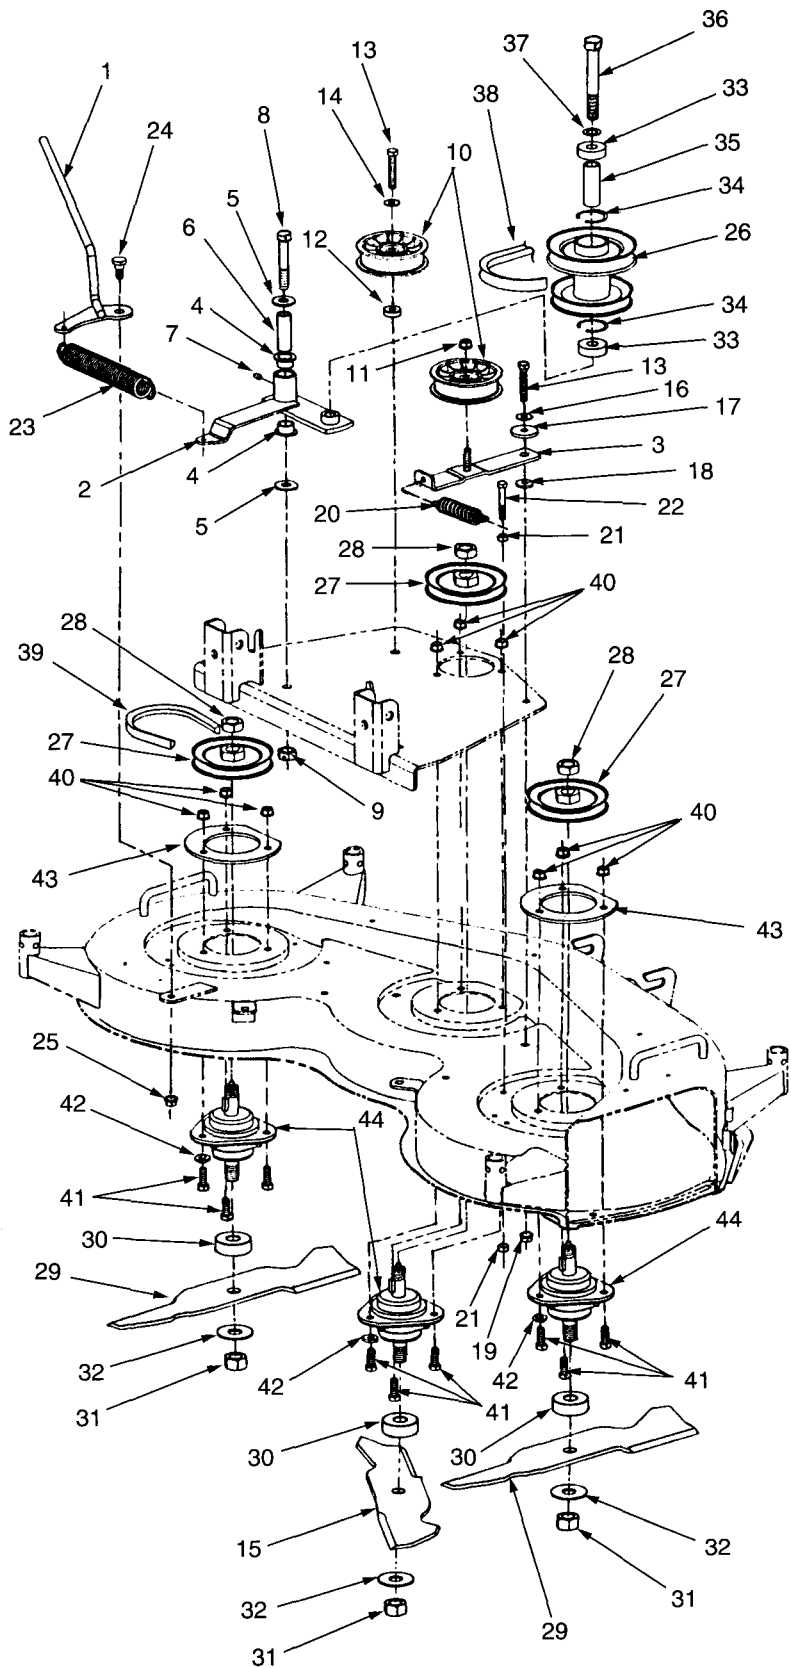

Figure 5-52. Deck Drive Components (Model 190 - 300 Mower Deck).
Use care when handling the mower blades (15 and 29, Fig. 5-52). Sharp edges of the blades could cause cuts to the skin.
When the hex nut (31, Fig. 5-52) is removed, the spindle shaft, with V-pulley (27), is free to fall from the spindle assembly (44) when the deck is tipped or inverted to remove the blades. Use care to prevent these parts from falling, which could cause damage or injury.
To prevent the spindle shaft from turning when removing the hex nut (31, Fig. 5-52) and/or hex jam nut (28), use a 1-1/4 inch wrench to hold the hex shaped hub of the V-pulley (27).
18. Remove the center cutting blade (15, Fig. 5-52) and spacer (30) from the spindle assembly (44) by removing the hex nut (31) and flat washer (32).
If the woodruff key is removed from the spindle shaft when removing the V-pulley (27, Fig. 5-52), the shaft will be free to fall from the spindle housing and may cause damage or injury.
19. Remove the hex jam nut (28, Fig. 5-52) from the center spindle assembly (44) and pull the V-pulley (27) from the spindle shaft and woodruff key.
20. Remove the center spindle assembly (44, Fig. 5-52) from the mounting plate (2, Fig. 5-51) and deck housing (1) by removing the hex flanged lock nuts (40, Fig. 5-52), hex cap screws (41), and flat washers (42).
22. Carefully remove the outer cutting blades (29, Fig. 5-52) and spacers (30) by removing the hex nuts (31) and flat washers (32).
23. Remove the hex jam nuts (28, Fig. 5-52) from the outer spindle assemblies (44) and pull the V-pulleys (27) from the spindle shafts and keys.
24. Remove the outer spindle assemblies (44) and spindle mounting plates (43) from the deck housing by removing the hex flanged lock nuts (40, Fig. 5-52), hex cap screws (41), and flat washers (42).
25. If necessary, note the hole location and remove the hex cap screw (22, Fig. 5-52) and upper hex nut (21) from the deck housing by removing the lower hex nut (21).
Disassembly, inspection, and reassembly of the spindle assemblies (44, Fig. 5-52) are covered in paragraph 5-37.
1. Remove the flat idler pulley (10, Fig. 5-52) from the idler arm (3) by removing the hex flanged lock nut (11).
2. Remove the double pulley (26, Fig. 5-52) assembly from the pulley pivot arm (2) by removing the hex cap screw (36) and flat washer (37).
3. Disassemble the double pulley (26) assembly as follows:
- a. Slide the ball bearing (33) from each end of the pulley hub and remove the pulley spacer (35).
- b. Remove the internal snap rings (34) from inside the pulley hub.
4. Disassemble the double pulley pivot arm (2) assembly as follows:
- a. Slide the idler brkt. spacer (6) from the hub of the pivot arm.
- b. If necessary, press the flange bearings (4) from each end of the pivot arm hub. Discard and replace the bearings if removed.
- c. Remove the lube fitting (7), only if necessary, by pulling from the pivot arm hub. The lube fitting must be replaced if removed.
- a. After first marking the location of the hex jam nuts (43) on the threads of the lift rod (6), remove the hex nylon top lock nuts (46) to separate the lift rod from the front lift bracket (7).
- b. Remove the shoulder bolts (44) and hex flanged lock nuts (45) from the front lift bracket.
- c. Remove the hex jam nuts (43) from the front lift rod (6).
7. Inspect the shoulder spacer (17, Fig. 5-52) and idler arm (3) for wear to mating surfaces.
- a. Screw the hex jam nuts (43) onto the front lift rod (6) to the positions marked when disassembling.
- b. Install the shoulder bolts (44) in the front lift bracket (7) with the hex flanged lock nuts (45).
d. Secure with the hex nylon top lock nuts (46). Do not tighten the top lock nuts (46) until making the final adjustment when installing and leveling the deck on the tractor.
3. Reassemble the double pulley pivot arm (2, Fig. 5-52) assembly as follows:
- a. If previously removed, use a protective sleeve and drive the new lube fitting (7) into the pivot arm hub.